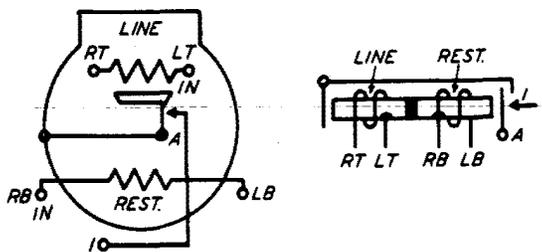

Fig. 100 — Winding and Spring Terminal Arrangement as Viewed From the Rear (terminal side) — 22-Type Drop
4.07 The contact and winding terminals of drops are designated as shown in Fig. 100 through 102.